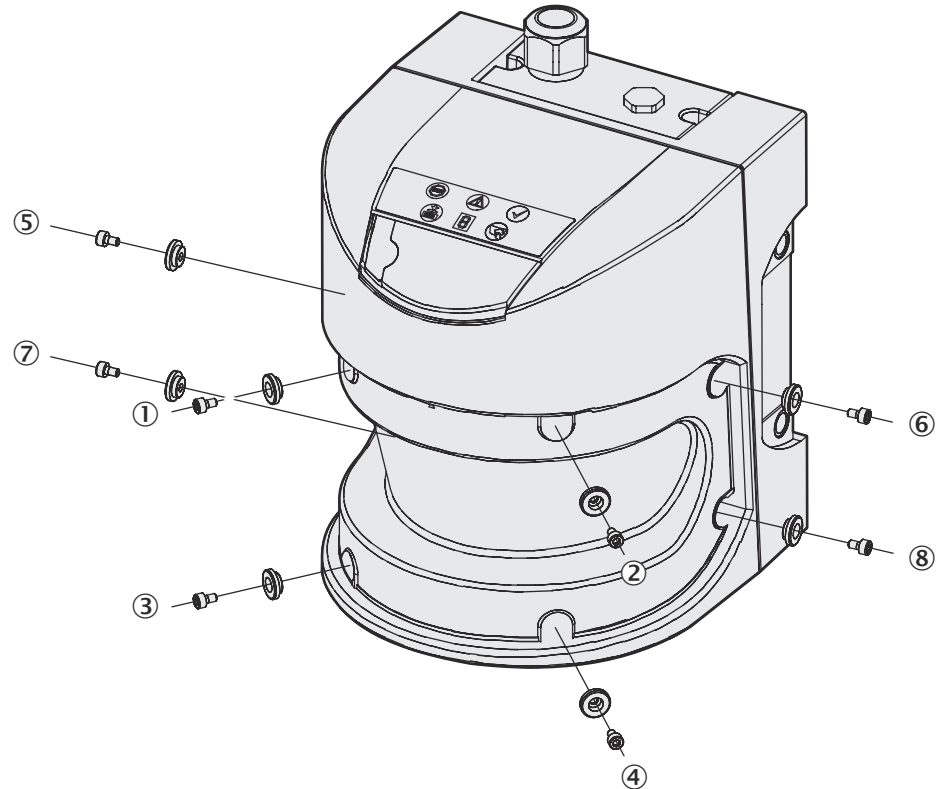

Figure 85: Remove the fixing screws of the front screen
15. Place the front screen on the rubber seal and insert the new fixing screws ① to ④ with distance bushes (see figure 85).
16. Press the front screen on the front of the cover. During this process tighten the front screws ① to ④ to the tightening torque set.
17. Now insert the rest of the screws ⑤ to ⑧ with distance bushes (see figure 85) and tighten using the torque wrench.